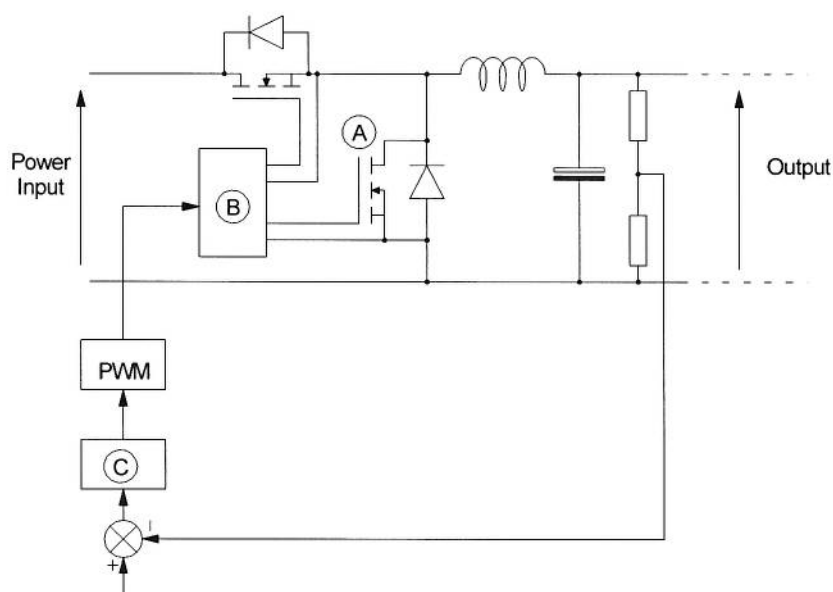

Figure 1.1 A double-switched buck SMPS
- a) Figure 1.1 shows closed-loop controlled switch mode power supply (SMPS). [3-14]